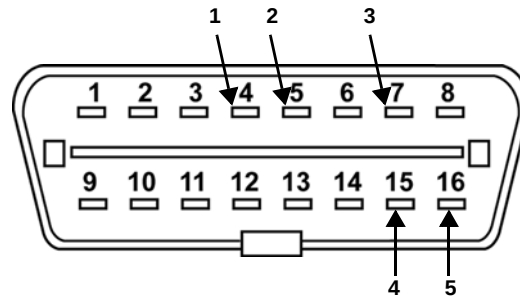

Figure B-1 16-pin OBD-II data link connector (DLC)
1. Temporarily place a 1K-ohm resistor between pins 4 and 7 of the DLC and ensure it is making contact with both pins (Figure B-1).